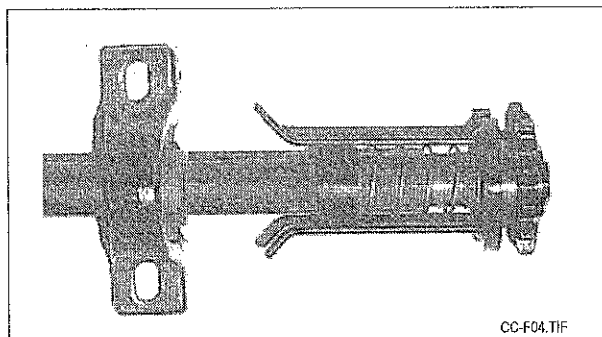

Figure 6.25 Clutch Engaged
17. Refer to Figure 6.25. After Stationary Calibration is complete **engage** the manual clutch collar by turning the calibration crank until the manual clutch collar is firmly seated over the milled  $1\frac{1}{4}$ " (32 mm) bore sprocket.